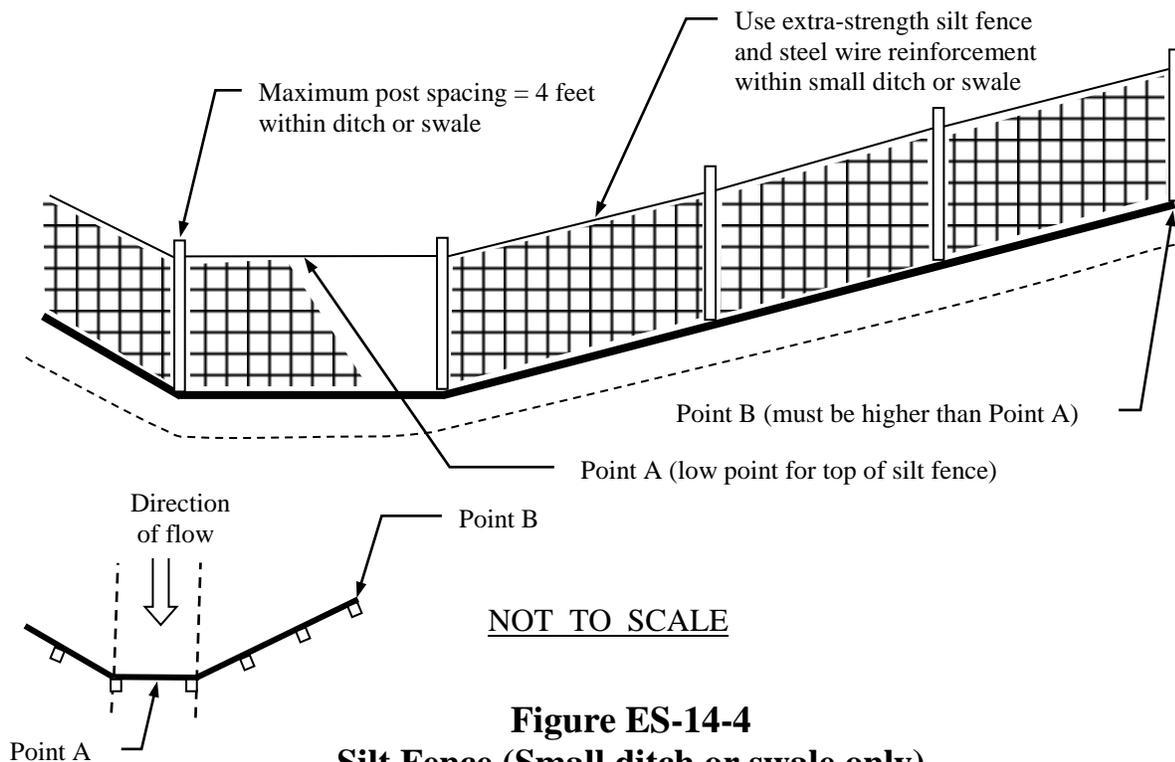

Figure ES-14-4
- If a silt fence is installed in a stormwater ditch or swale, then steel wire reinforcement is highly recommended. Maximum post spacing shall be 4 feet or less. The silt fence should have the ends oriented upstream to resemble a horseshoe pattern, as shown in Figure ES-14-4.